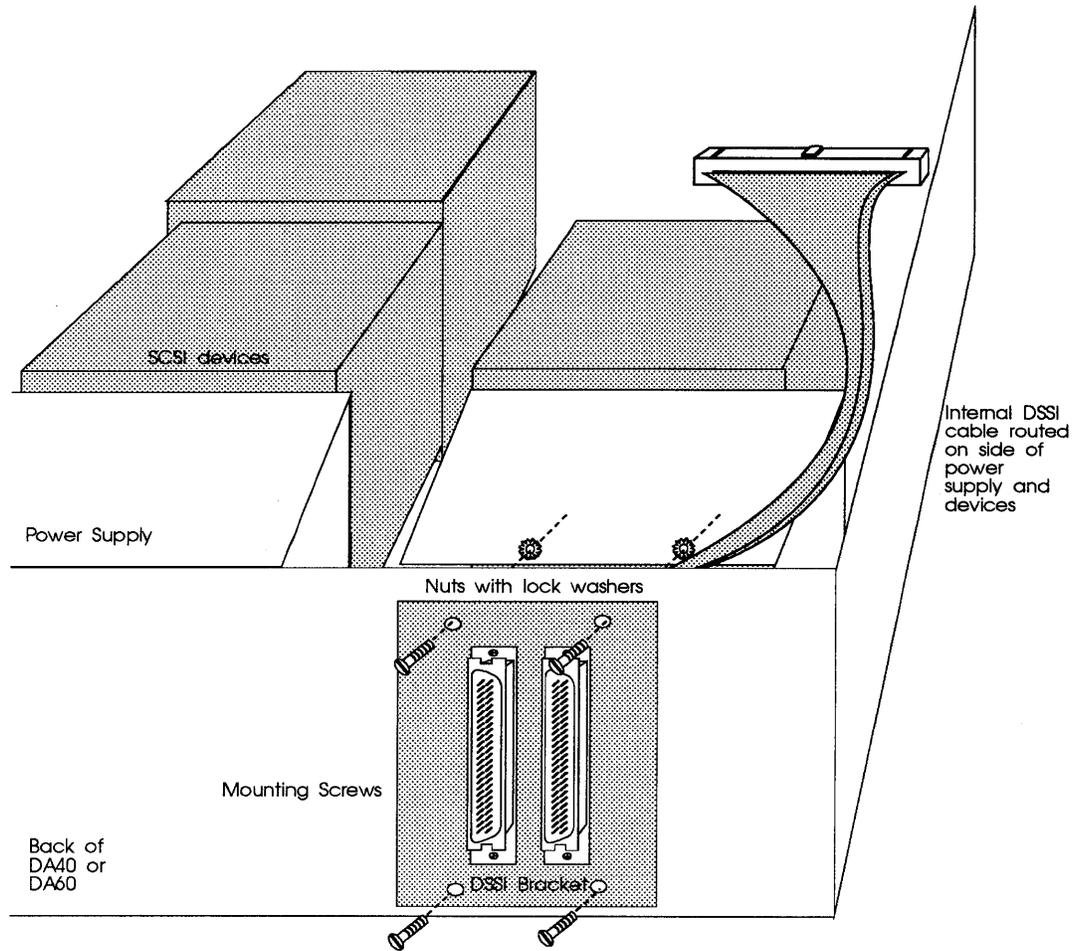

Figure 7-13: Installing the DSSI bracket
- 8 Put four mounting screws into the DA40 or DA60 through the DSSI bracket and secure them with the nuts with lock washers, as shown in Figure 7-13.
- 9 Connect the internal DSSI cable from the DSSI bracket to the CDI-4000 at J1, DSSI port; see Figure 7-13. Route the internal DSSI cable on the side of the SCSI drives.